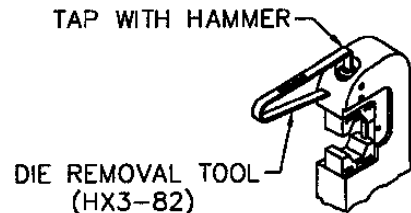

FIG. 2
1. With crimping tool handle open, place die removal tool against end of knock-out pin and tap gently with small hammer (See Figure 2). The die will be released from the front die holder. It can now be removed by hand.